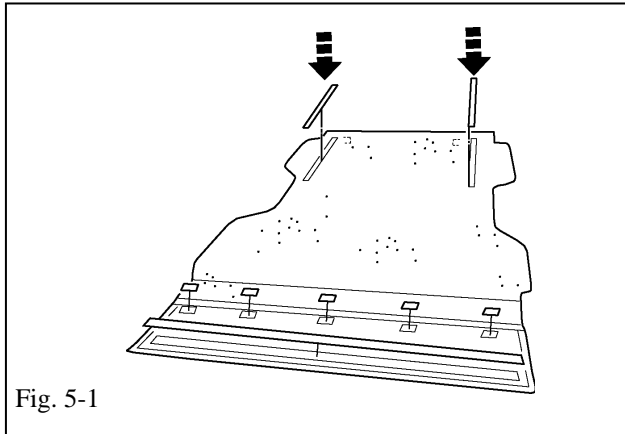

Fig. 5-1
- (a) Attach (2) 1"X 36", 1"X 2" and 1"X 60" hook to underside of the bed liner and tailgate. Trim 1"X 60" strip where necessary. **Do not remove adhesive protective film at this time.** (Fig 5-1)